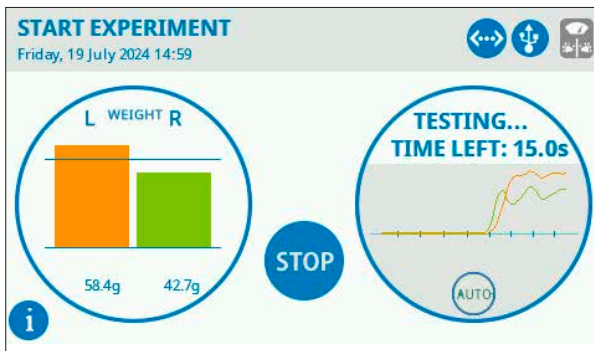

Figure 4.6.6 - Experiment is running
1. 1. Experiment runs until time-out (Figure 4.6.6)